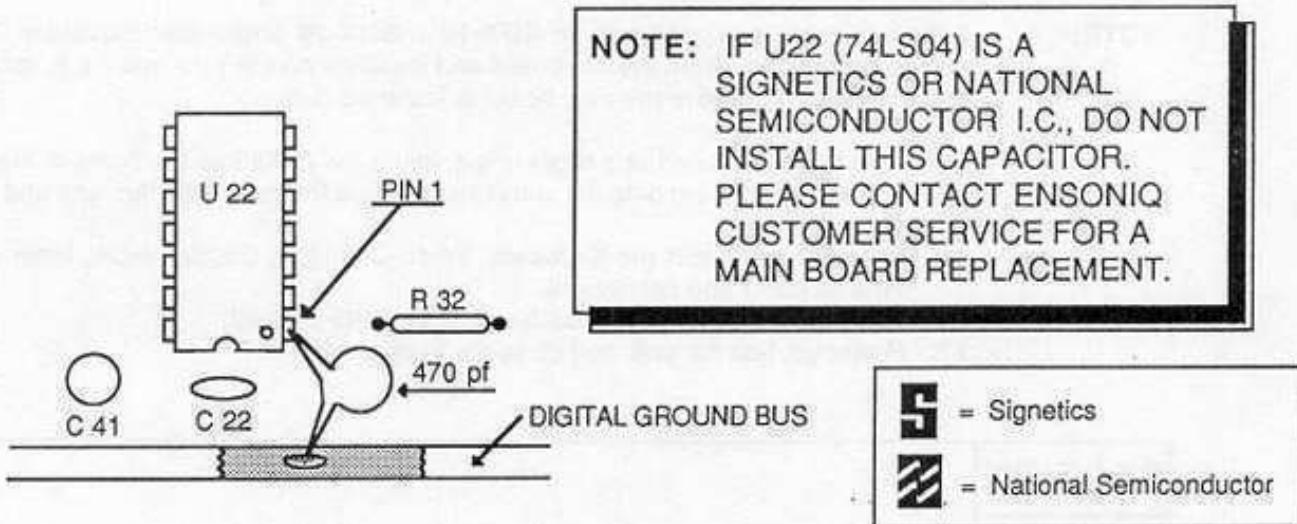

Figure 5
- A. Disconnect all cables from the ESQ-1, including the power cable. Remove the four (4) screws that fasten the control panel and raise the panel.
- C. You should now have access to the main board. Locate U22 (74LS04) and scrape away the solder mask coating (from about 1/4 inch of the digital ground bus directly across from pin 1 of U22 – see **Figure 5**). Tack-solder a 470pf capacitor between pin 1 of U22 and the scraped portion of the ground bus.